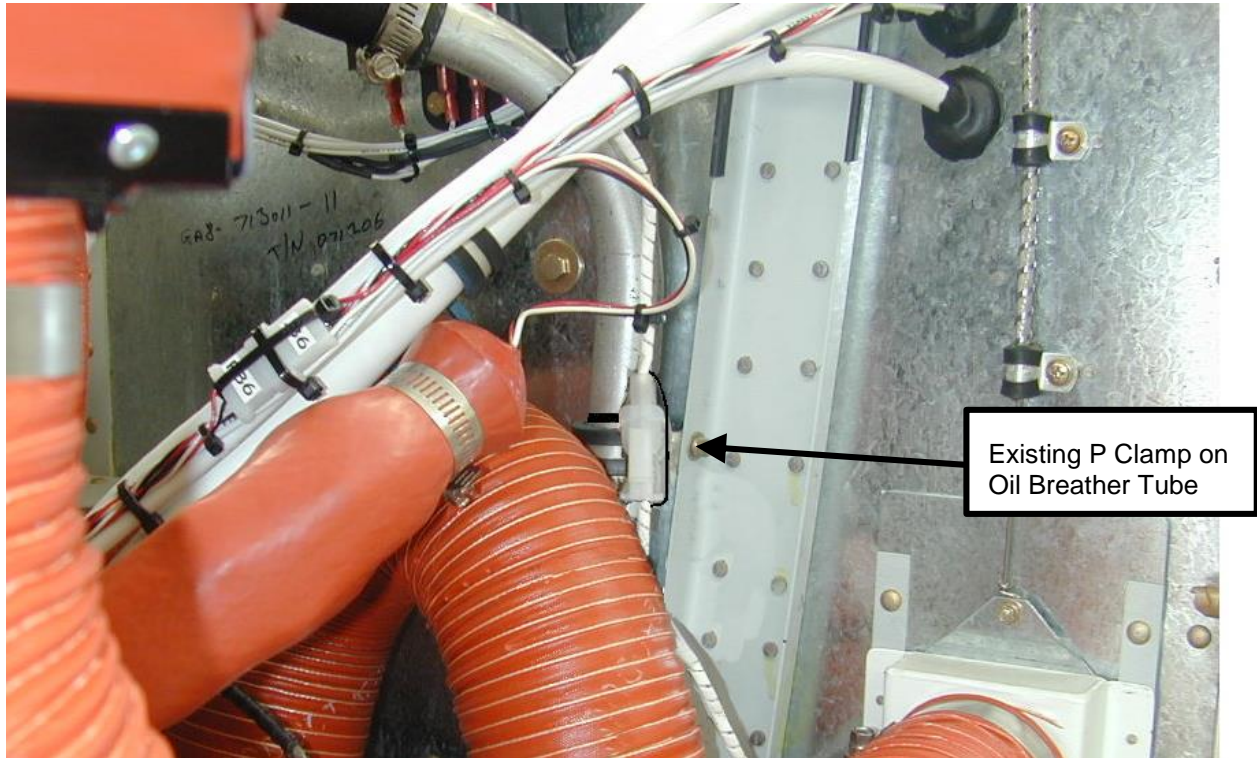
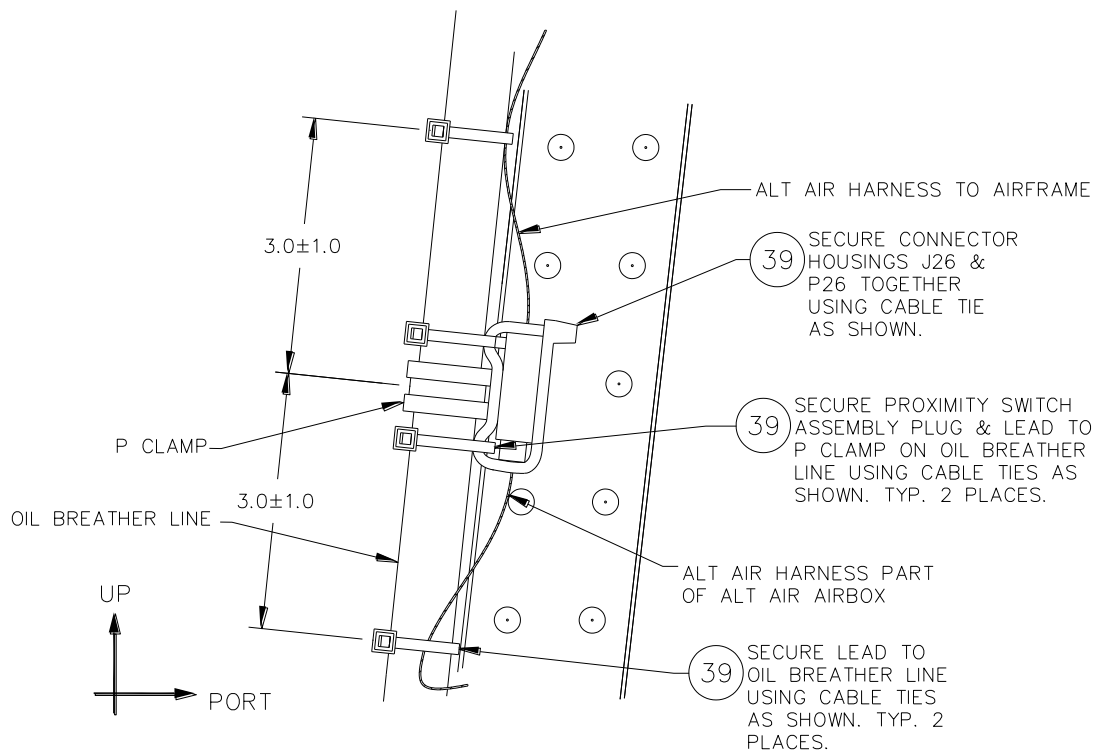

Figure 5: Modified configuration. Additional cable ties are not shown.
Figure 6: Detailed View of the attachment of the P26/J26 Electrical Connector (Looking Aft onto Firewall).
19. Plug in and secure the alternate air warning connectors (P26/J26) per Figure 5 and Figure 6. Confirm that the alternate air indicator illuminates with activation of the by-pass door. This can be achieved by opening and closing (pushing and pulling) the Alternate Air Control Cable to initialise the sensor circuit.